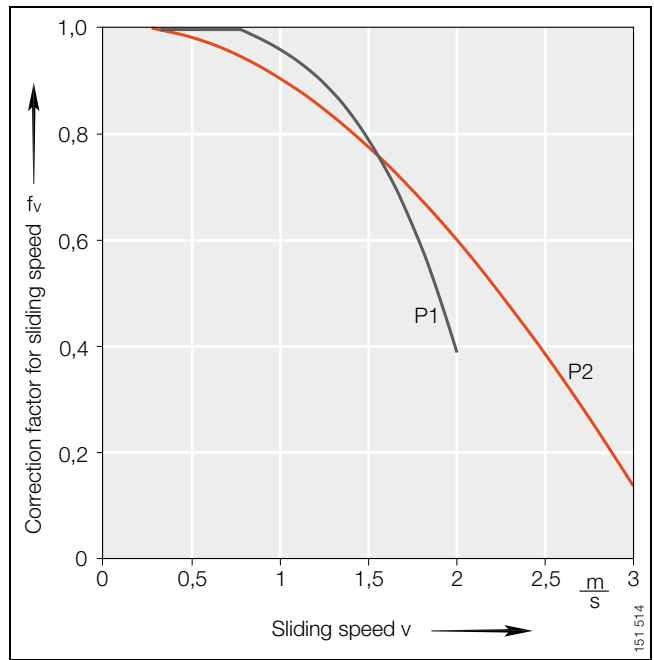

Figure 5 · Correction factor for sliding speed f_v ,
Correction factor for sliding speed, Figure 5, page 15
- Correction factor for sliding speed f_v , Figure 5, page 15